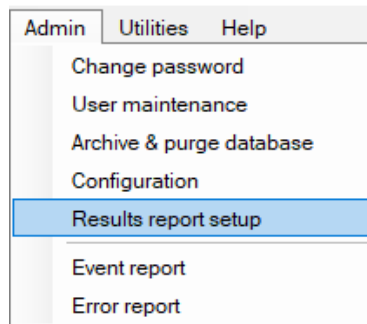

Figure 106 Admin menu
- 1 From the **Admin** drop-down menu, select **Results report setup** (Figure 106).